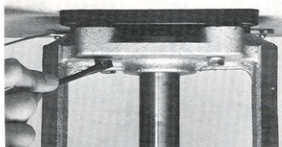

Fig. 10
Unscrew the four attachment bolts which will be found on the bottom side of the table ①, temporarily screwed into their screwholes. Use these four bolts for fixing the table ① on top of the elevating mechanism of the adjustable instrument table as shown in Fig. 10.